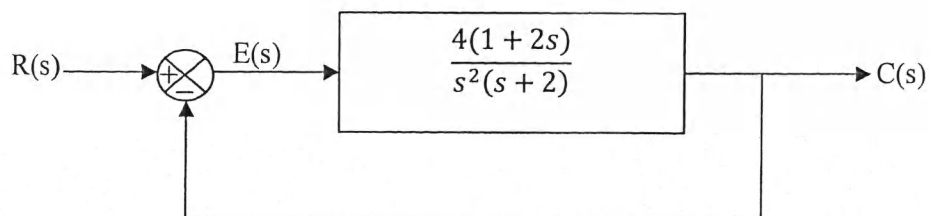

Fig. 2
7. Fig. 2 shows a unity feedback closed loop control system. The steady state error of the system to unit ramp input is